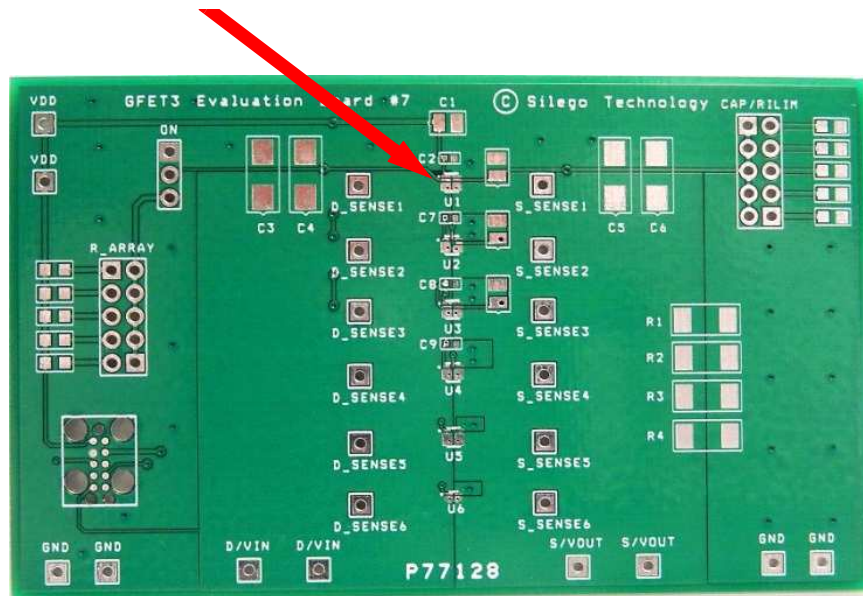

Figure 1. SLG59M1457V Evaluation Board.
2. Since the D and S pins dissipate most of the heat generated during high-load current operation, it is highly recommended to make power traces as short, direct, and wide as possible. A good practice is to make power traces with an absolute minimum widths of 15 mils (0.381 mm) per Ampere. A representative layout, shown in Figure 1, illustrates proper techniques for heat to transfer as efficiently as possible out of the device;
A GreenFET Evaluation Board for SLG59M1457V is designed according to the statements above and is illustrated on Figure 1. Please note that evaluation board has D_Sense and S_Sense pads. They cannot carry high currents and dedicated only for RDS_{ON} evaluation.